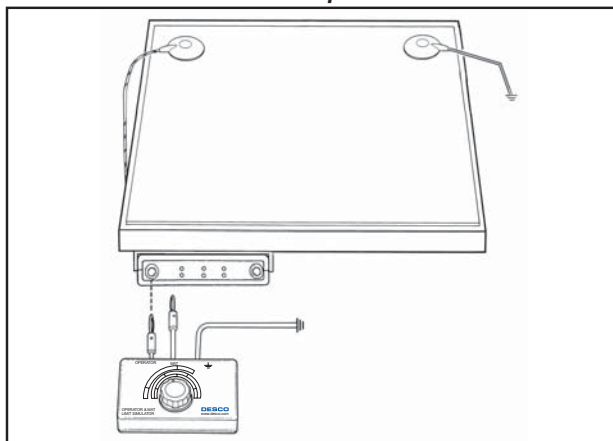

Figure 4. Connecting test lead from 98220 to 19232/19233.
Step 2: Insert the calibration unit's banana plug marked "Operator" into the "OP1" jack on the 19232/19233. See figure 4.
Step 7: Repeat this procedure for Operator (2) on the OP2 jack.